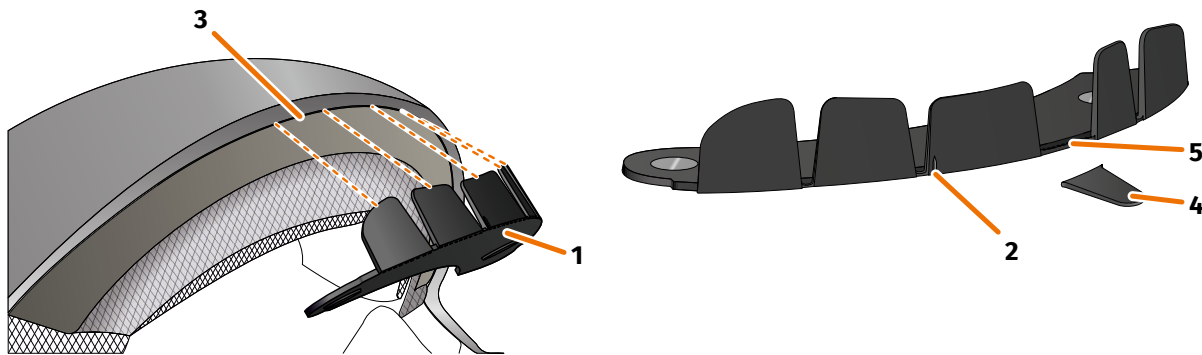

FIGURE 8: Clamping in the helmet adapter with tabs
1. Place the helmet adapter (FIGURE 8/1) in the forehead section of the helmet. At the front of the helmet adapter, there is a mark (FIGURE 8/2) that should be placed on an imaginary line between the middle of your helmet and the middle of your face.
2. Use both hands to evenly push the tabs into the gap (FIGURE 8/3) until the base plate of the helmet adapter is flush on the mounting surface of the helmet. For some helmets, you may have to open up the gap a bit first.
If you notice that individual tabs collide with the helmet material in the gap in the helmet, you can simply break off up to three tabs (FIGURE 8/4, for example). The tabs are perforated at the bottom edge (FIGURE 8/5) to facilitate break-off. You may use a file or scissors to smoothen the breaking points a little.